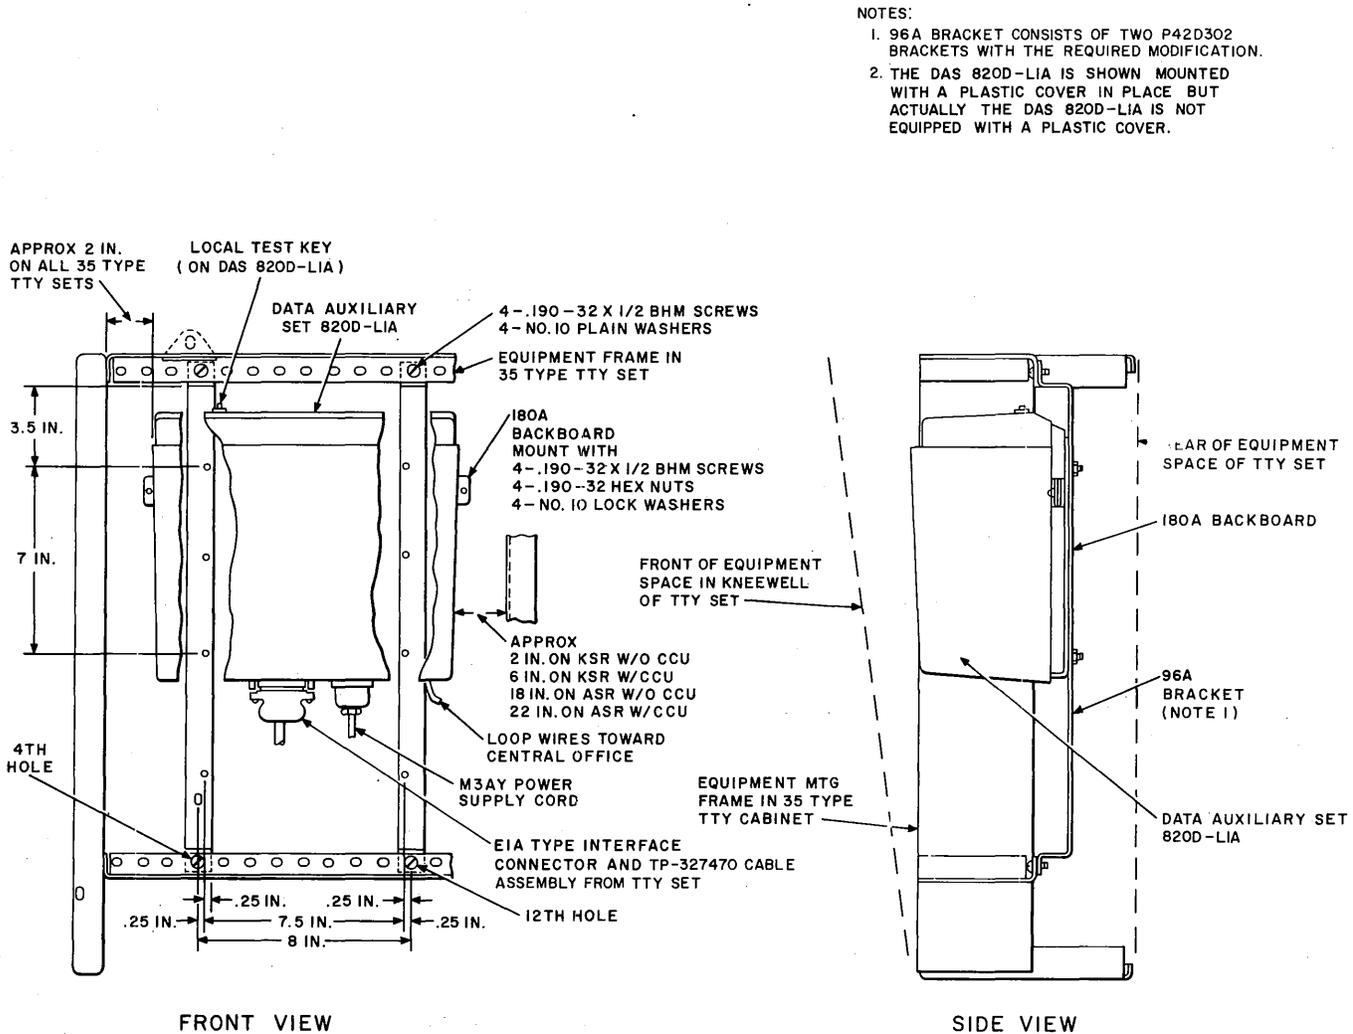

Fig. 2—Layout of Model 35 Teletypewriter With Data Auxiliary Set 820D-L1A
- (j) Assorted screws and hardware in accordance with Fig. 2.
2.07 The following steps outline the procedure to be followed to mount the DAS into the Model 35 TTY (see Fig. 2).
- (5) Mount the 180A backboard on the 96A bracket and tighten screws.
- (6) Verify that the data set and AR17 CP are secure in their slots.
- (7) Loosen the spring clips on the 180A backboard and position the DAS as shown in Fig. 2. Verify that the basepan of the DAS is under the spring clips and tighten screws.